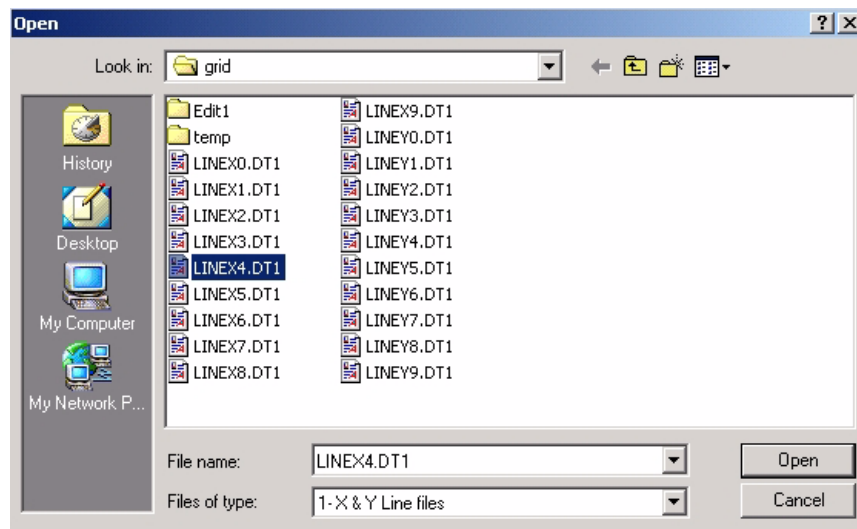

Figure 5-19: Importing a single data line into the GFP file.
- 2) Import the single data line after the gap in the data (Figure 5-19) and open the Input Lines Parameters dialog (Figure 5-20).
- 1) Import the single data line (Figure 5-19) and open the Input Lines Parameters dialog (Figure 5-20).
- Import the single data line (**Figure 5-19**) and open the Input Lines Parameters dialog (**Figure 5-20**).